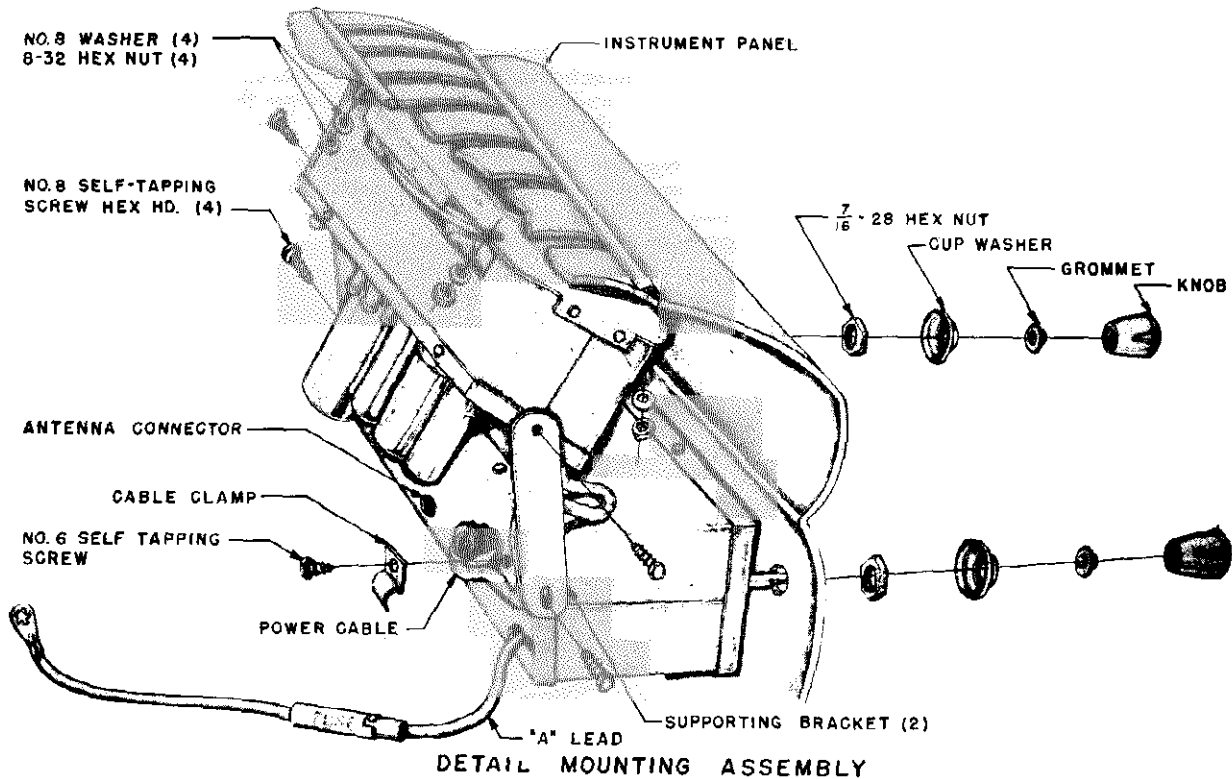

Fig. 2
3. Place speaker and power pack unit over four threaded stud bolts located on the underside of the instrument panel. (Position power pack unit so that power cable is located on the left hand side.) See Fig. 2.
(See detail assembly drawing FIG. 2)